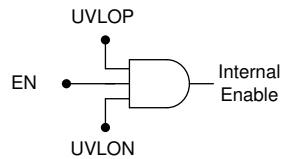

Figure 6-6. Simplified Turn-On Control
Figure 6-6 and Table 6-2 describe how the turn-on and turn-off times of both LDOs (respectively) are controlled by setting the enable circuit (EN) and undervoltage lockout circuit (UVLOP and UVLON).